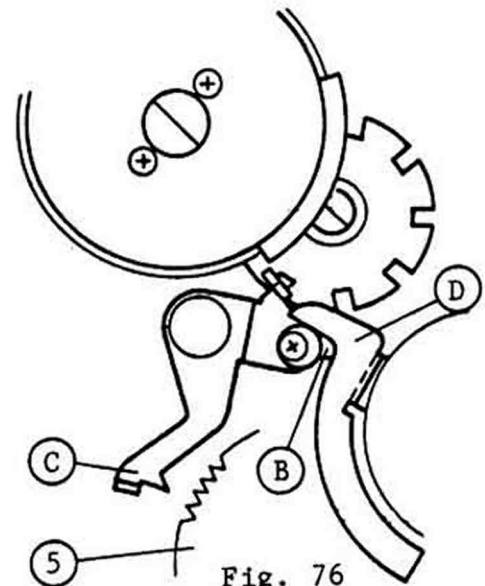

Fig. 76
- 1) With the shutter released, the (D) moves in direction shown by the arrow and then the (B)-end of SLS15842 Stop lever is detached from the (3)-Film counter dividing device and the other end (C) from the F.clutch wheel as shown in Fig. 76.